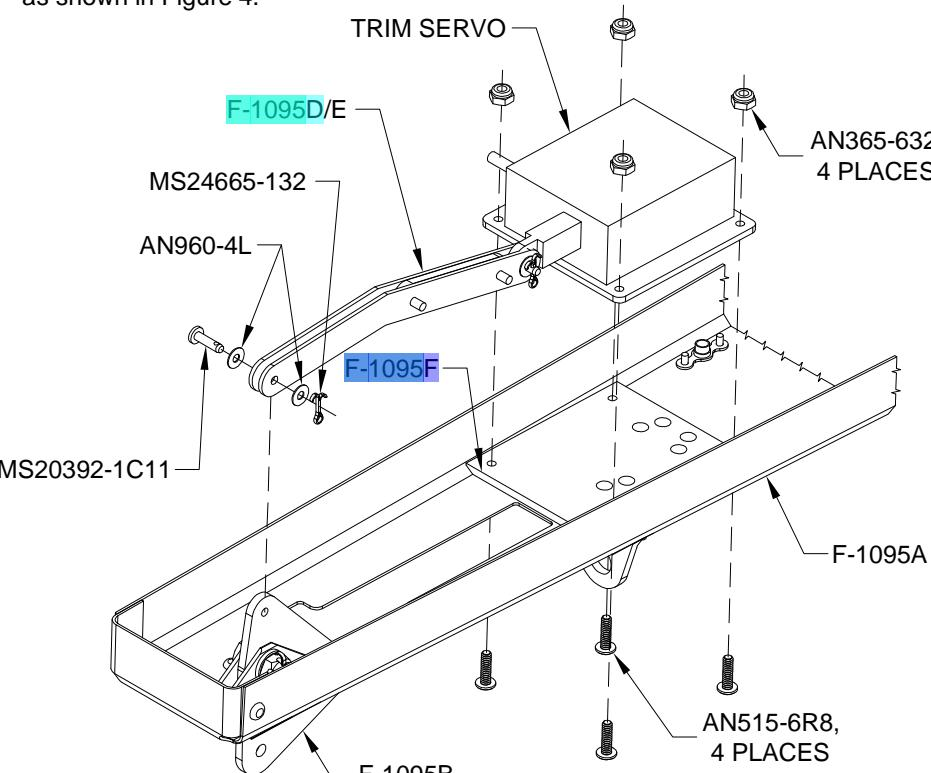

FIGURE 4:
Step 4: Install the Trim Servo to the F-1095A Trim Mount Bracket and F-1095F Trim Servo Spacer as shown in Figure 4.
Attach the F-1095D/E Trim Servo Link Sub-Assembly to the F-1095B Trim Bellcrank as shown in Figure 4.